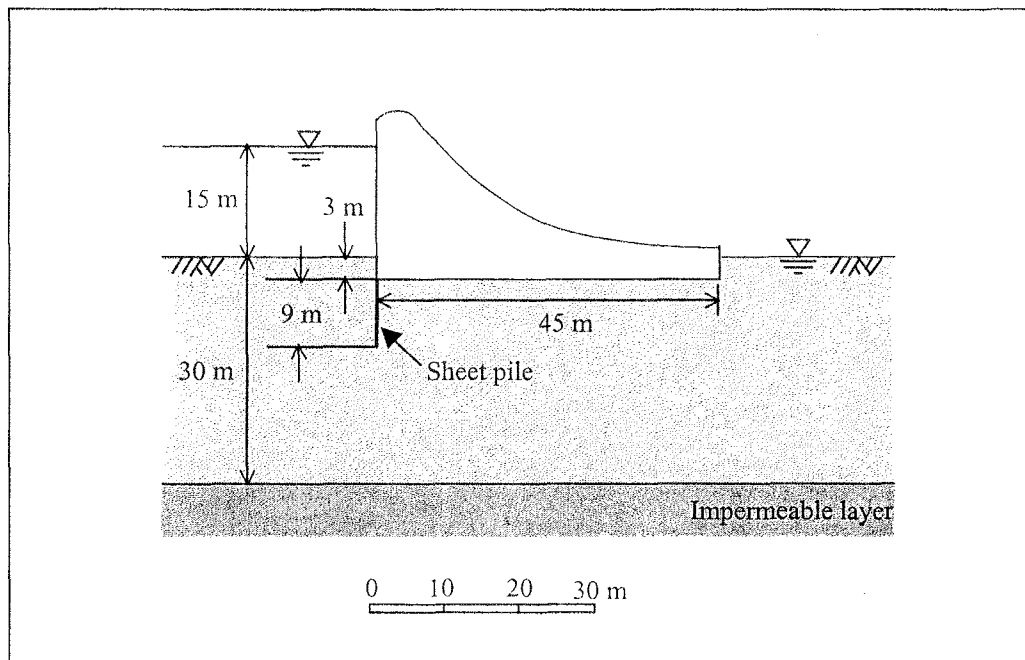

Figure 3.0
- (c) Based on question (b), if a sheet pile wall that penetrates 9.0 m into the soil is to be installed at the upstream side of the dam as shown in Figure 3.0 in order to reduce seepage under the dam. If the same sheet pile walls are to be installed at both sides of the dam, how will the seepage under the dam be affected?